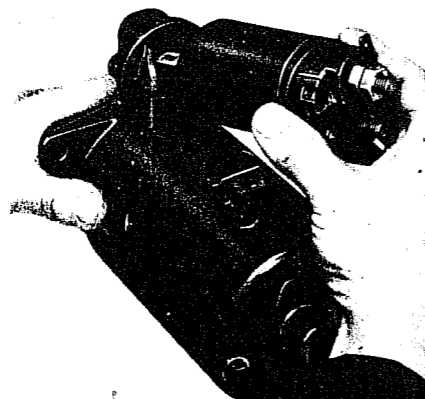

Fig. L.19. Engaging the solenoid pull-rod in the actuating lever.
3. Pull the spindle right out of the motor to allow the solenoid pull rod to be hooked on (Fig. L 19).